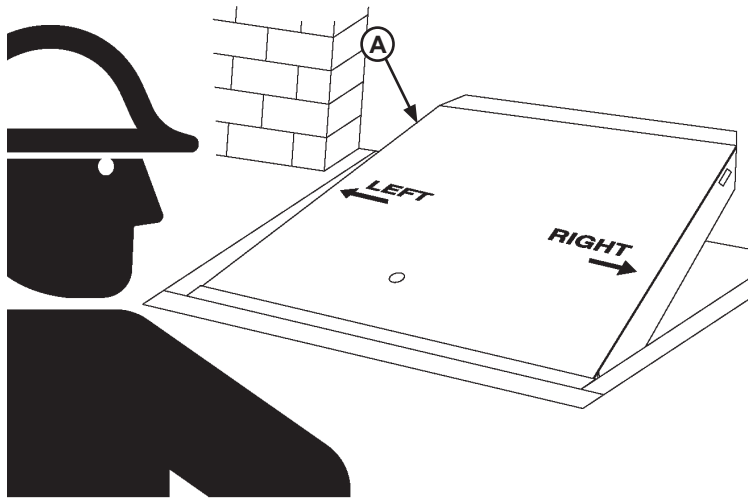
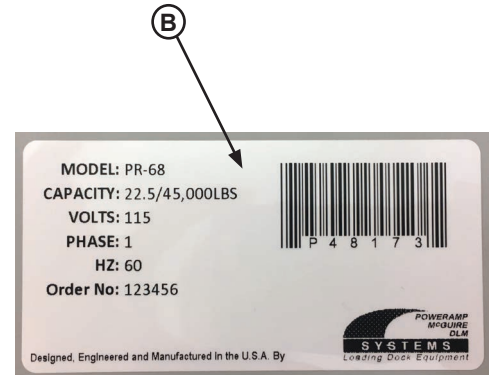

Figure 32
Figure 33
**NOTE:** Refer to **Figure 32** for left/right orientation of dock leveler and **Figure 33** for example of decal.